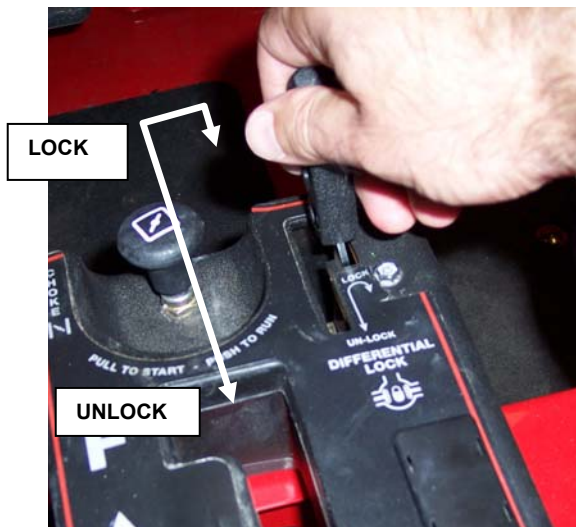

FIGURE 2.4a
2.2.4. Differential Lock. The differential lock increases traction by causing both rear wheels to pull evenly. Move the lever towards the front of the slot and latch to “Lock” the differential. (See Figure 2.4a.) Unlatch the lever and move to the back of the slot to “Unlock” the differential. Do not attempt to lock the differential until all wheel rotation has stopped. Do Not operate the machine in excess of 10 mph or attempt to turn the machine with the differential locked. Always unlock the differential when increased traction is no longer needed.